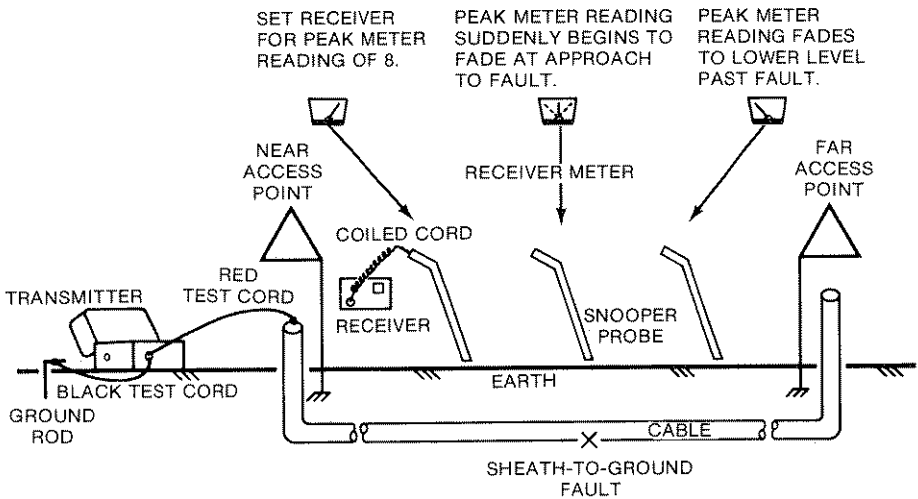

Figure 5-2.
3. Connect the black test cord clip to the ground rod (see Figure 5-2).
4. Plug the jack end of the red/black test cord into the RED/BLACK TEST CORD jack receptacle on the transmitter (see Figure 5-2).